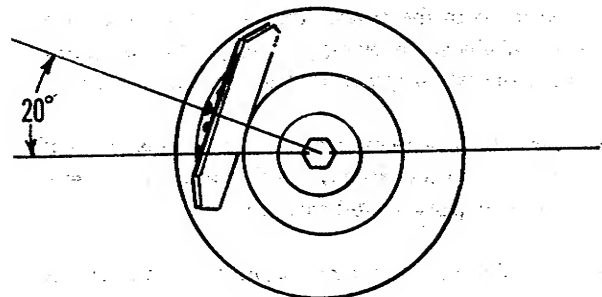

FIGURE 18
8. When using the grass catcher or leaf bag on 19" mowers, be sure the baffle plate is in place on the engine muffler. Be sure it is turned so the baffle directs the exhaust gasses straight back, keeping them away from the operators face. (See Figure 18).